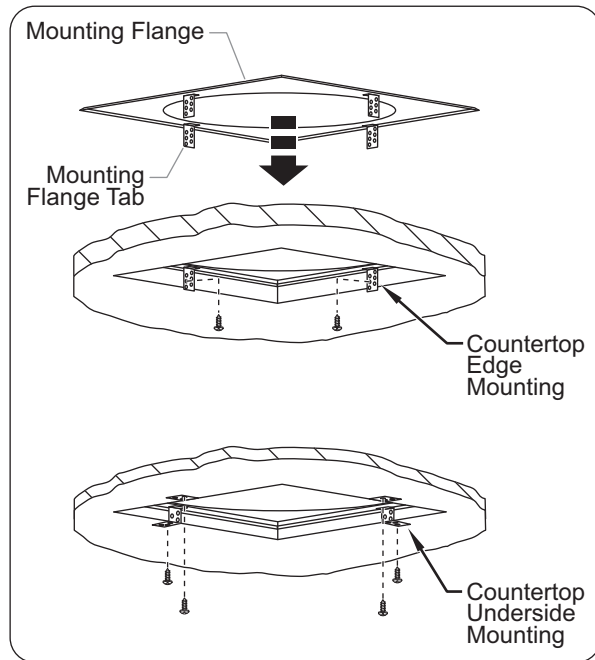

Figure 19. Installation of Mounting Flange Kit
5. Secure the mounting flange tabs to the edge or the underside of the combustible countertop using the appropriate hardware (mounting hardware not provided, see Figure 19).